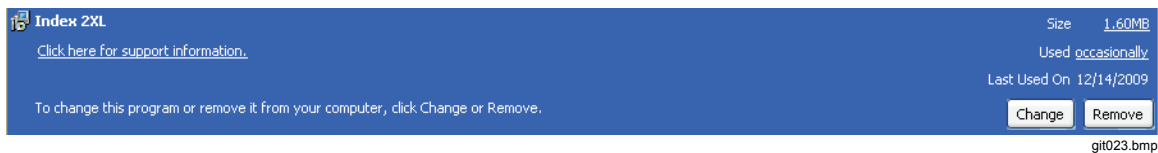

Figure 2-2. Removing Index 2XL Plug-In
2. Locate and select the entry named **Ansur Index 2XL Plug-in**, as shown in Figure 2-2.